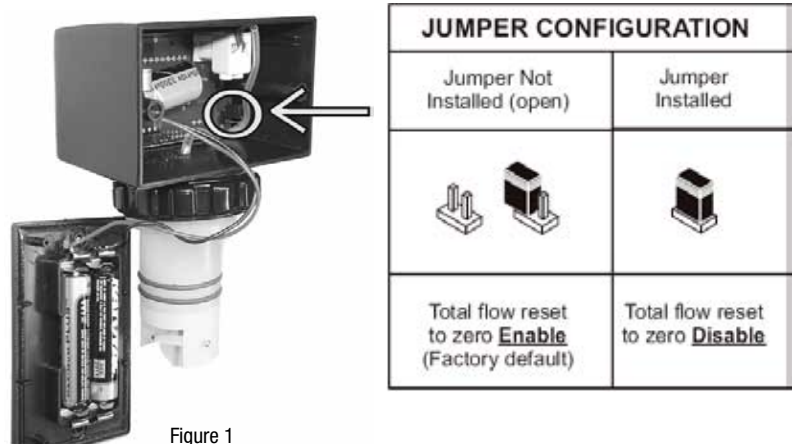

Figure 1
**Model FM-1000-T:** The FM-1000-T provides totalizer function only. The meter will display the total flow amount and can be reset to zero. Pressing and holding the RESET button (located on the front panel) for at least two seconds resets the total to zero. This feature can be disabled. See Figure 1 below.
**Model FM-1000-RT:** The FM-1000-RT provides both rate and totalizer functions. Pressing the MODE/RESET button (located on the front panel) toggles the display between flow rate and total flow. Pressing and holding the MODE/RESET button for at least two seconds while the total flow value is displayed will reset the total to zero. This feature can be disabled. See Figure 1.